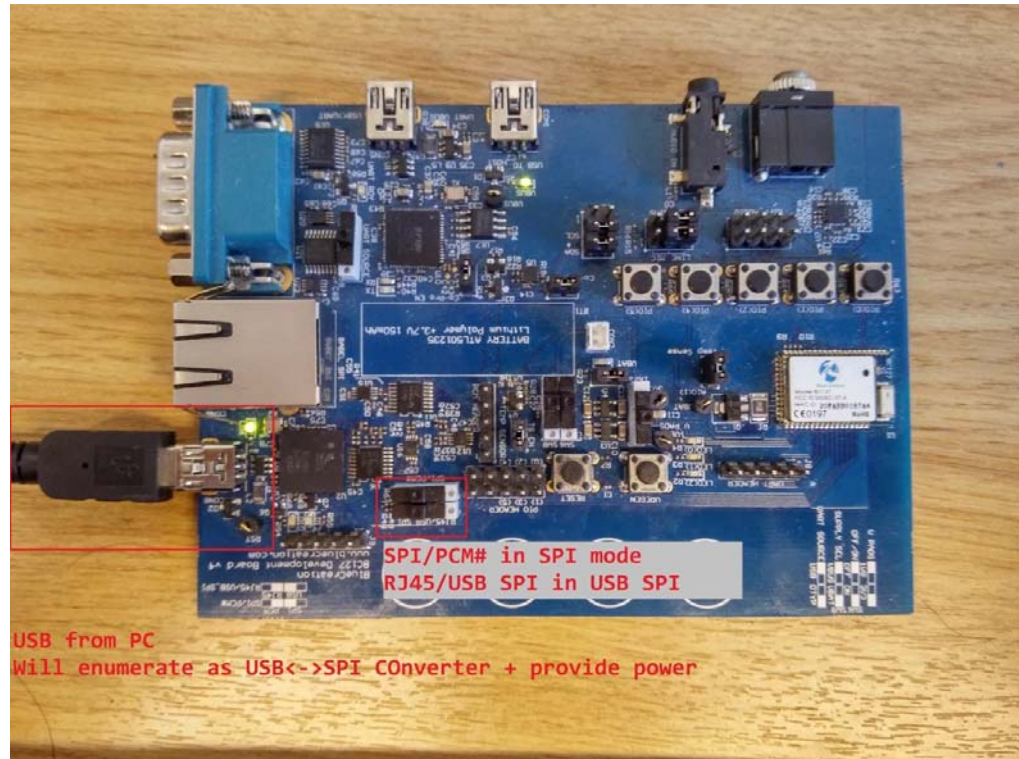

Figure 3-1: Connecting a v4 and later BC127 Dev Board to a PC for Programming
- B. Ensure SPI/PCM# switch is in SPI mode (Figure 3-1).
- C. Ensure RJ45/USB SPI switch is in USB SPI mode (Figure 3-1).
- D. Ensure SUPPLY SEL switch is in VBUS mode (Figure 3-1).
- E. Plug in mini-USB side of USB cable to your Dev Board's USB SPI connector (CON8) (Figure 3-1).